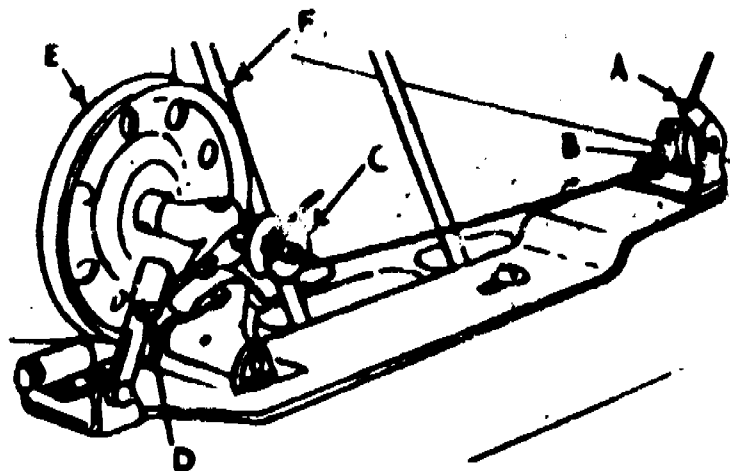

Figure 17. Winding the Bobbin.
a. Remove the bobbin from the case and place on the bobbin winder spindle as shown in figure 17.
b. Pass the thread from the thread stand down through the thread hole in the tension bracket (figure 17, part A) and down between
the bobbin winder disks (figure 17, part B). Pull the thread from the lower side of the tension disks to the bobbin.
d. Press the latch thumb lever until the automatic stop latch (figure 17, part D) catches and holds the pulley (figure 17, part E) against the driving belt (figure 17, part F).